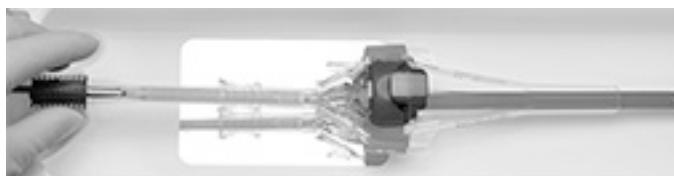

Figure 22
14. Advance the capsule to capture the bioprostheses outflow struts (Figure 22).